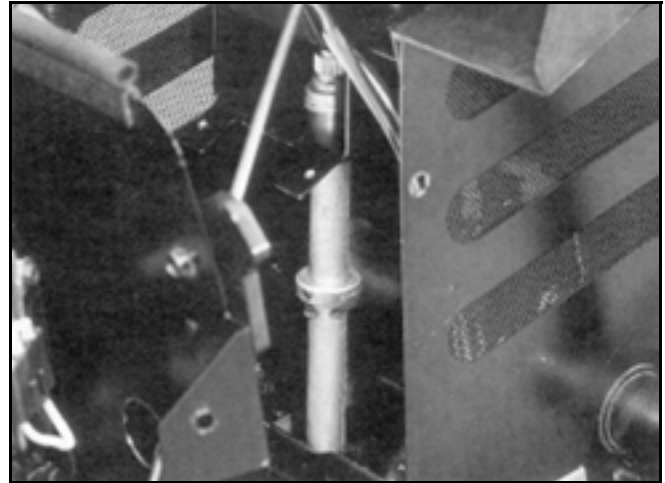

Figure 30
8. Expand the snap ring found on the steering gear shaft and slide it halfway down the shaft. Loosen the setscrew on the locking collar of the steering gear shaft and move it until it meets the snap ring (Figure 30).